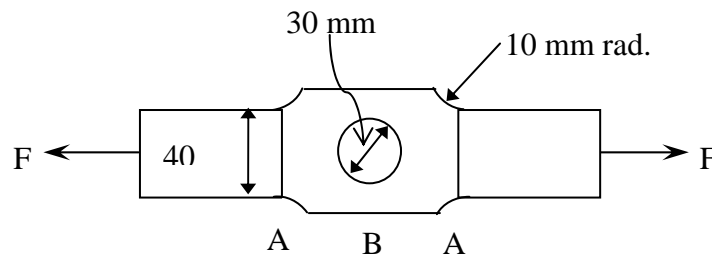

Fig. 8
10. The bar shown in Fig. 8 is cut from a 10 mm thick piece of steel. At the change in cross-section at A and B the approximate stress concentration factors are 2.25 and 2, respectively. What is the maximum force  $F$  the bar can be subjected? Take allowable stress for axial tension in the bar as 150 MPa.